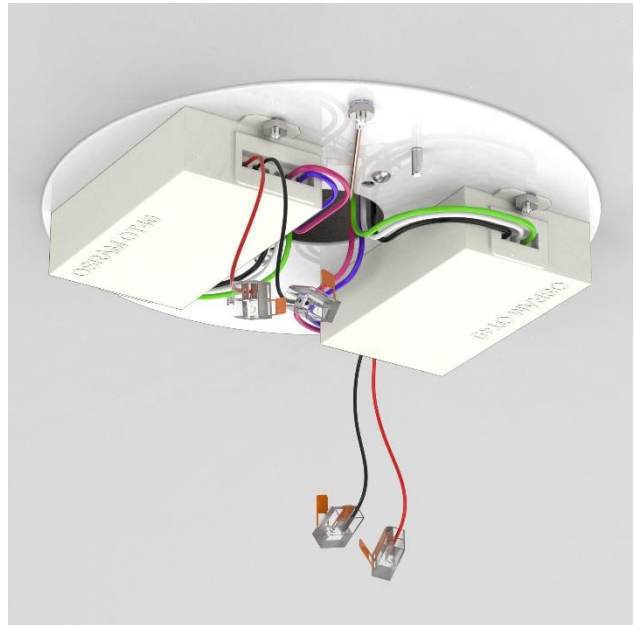

Figure 5
- Make wire connections using included provided connectors. (Figure 5)
- Carefully support then lift the chain assembly up to the secured electrical mounting disk (Figure 5)